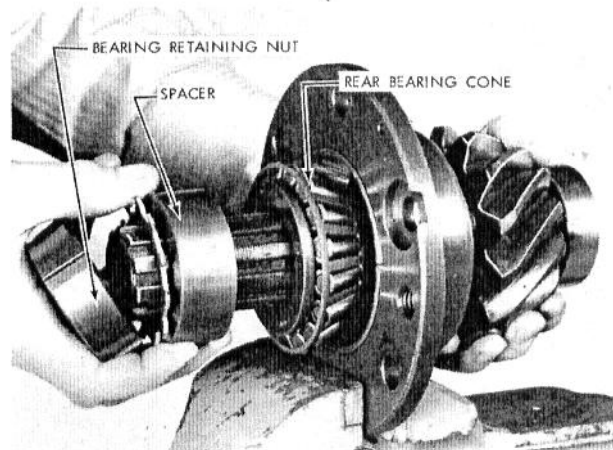

Fig. 55 - Drive Pinion Disassembly
3. Remove the bearing retaining nut, tab washer, spacer and bearing from the pinion shaft, as shown in Fig. 55.
4. Install the pinion shaft in the retainer flange and assemble the front bearing, spacer, tab washer and retaining nut on the pinion shaft as shown in Fig. 55.